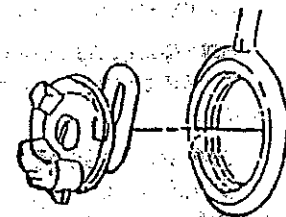

Fig. 3.
7. Insert hairpin end of heating element into block opening and orientate element to the 12 o'clock position. See Fig. 3.